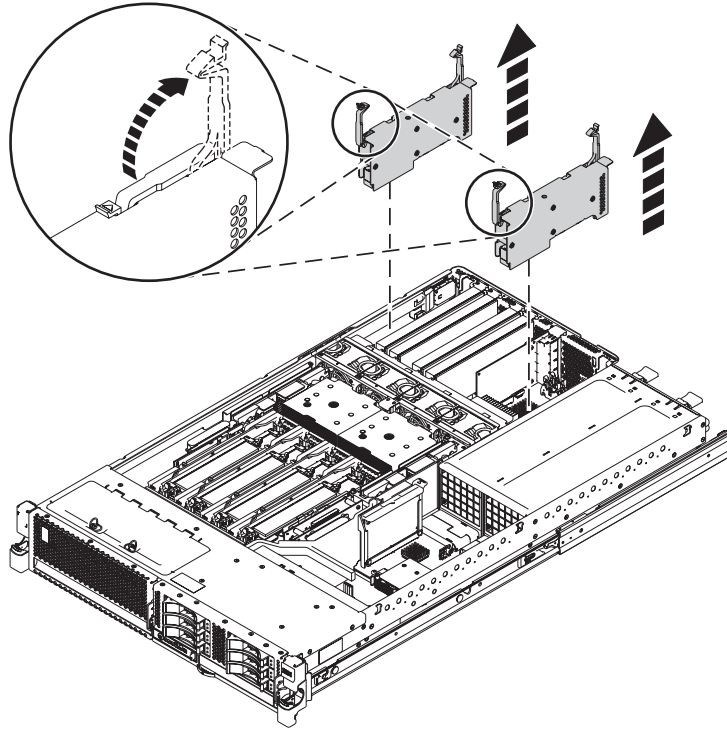

Figure 6. Adapter removal from a rack-mounted system
14. With the system in the service position, remove the existing adapter assembly as shown in Figure 6 on page 9. Unlock the latches on the adapter. Pull up the latches into the open position, and then lift the adapter out of the system.